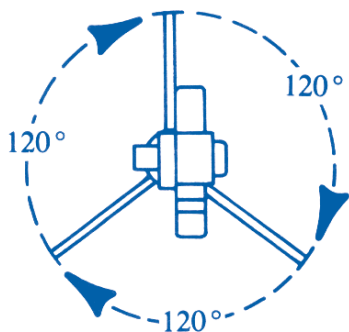

Figure 6
- Be sure the legs are equidistant from one other (Figure 6).